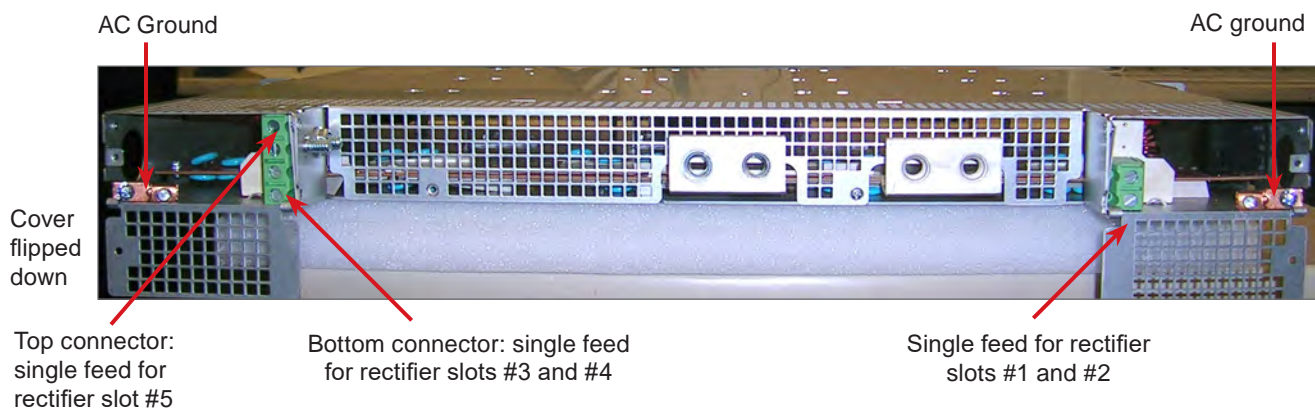

Figure 12 — AC input and ground for 23 inch shelf
4. Secure the wires to the AC input and AC ground terminals (torque spec. 169.5Ncm or 15in. lbf) and AC ground terminal (395.4Ncm or 35in. lbf). Refer to Figure 12 and customer connection drawing #0300057-08 and #0300216-08 at the end of the manual.